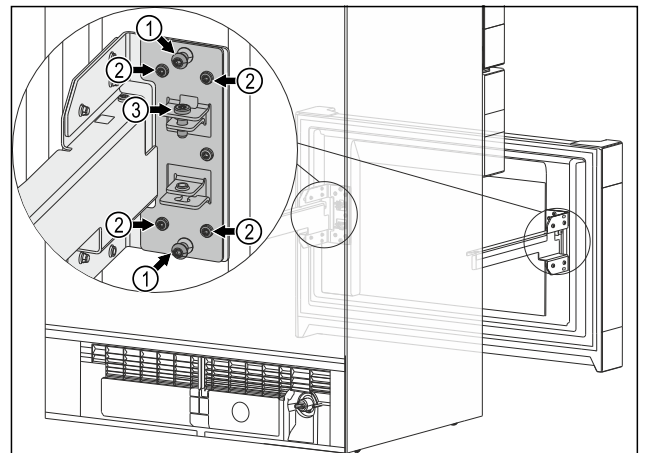

Fig. 13
- ▶ Remove both center screws *Fig. 13 (1)*.
- ▶ Loosen all four screws *Fig. 13 (2)*.
- ▶ The pull-out cart's end position is reached: Tighten all four screws *Fig. 13 (2)*.
- ▶ You do not need the center screws *Fig. 13 (1)* anymore.